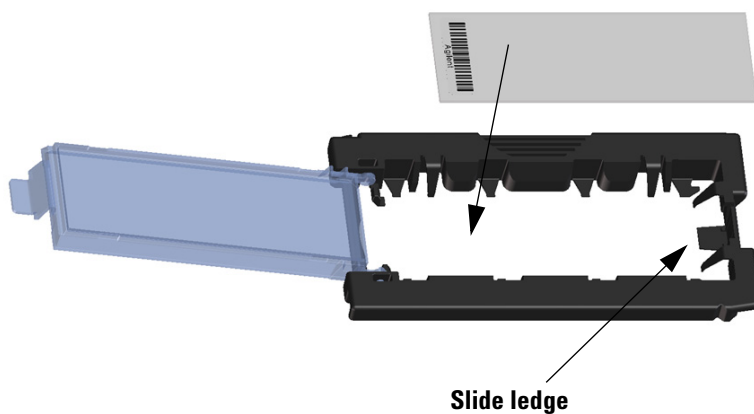

Figure 38 Inserting slide into the slide holder
- c Carefully place the end of the slide without the barcode label onto the slide ledge. See Figure 38.